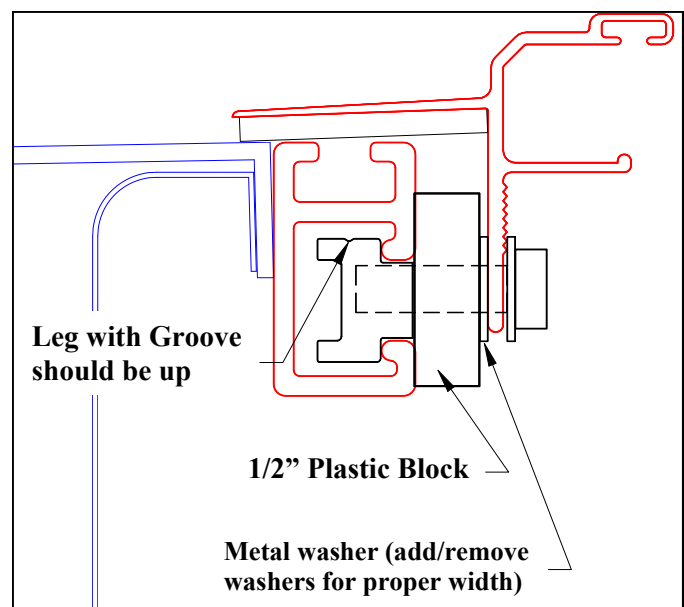

Figure 3—RETRAX Rail/Clamp mount
- **Figure 3** shows how the clamp will mount to the rail.
- Line up each cleat behind holes in rail, stack (1) plastic block and (1) metal washer behind each rail and thread (1) bolt into each cleat.